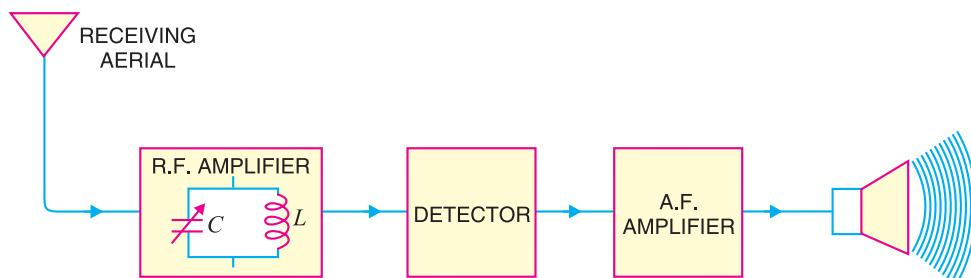

Fig. 16.18
**1. Straight radio receiver.** Fig. 16.18 shows the block diagram of a straight radio receiver. The aerial is receiving radio waves from different broadcasting stations. The desired radio wave is selected by the R.F. amplifier which employs a tuned parallel circuit. The selected radio wave is amplified by the tuned r.f. amplifiers. The amplified radio wave is fed to the detector circuit. This circuit extracts the audio signal from the radio wave. The output of the detector is the audio signal which is amplified by one or more stages of audio-amplification. The amplified audio signal is fed to the speaker for sound reproduction.